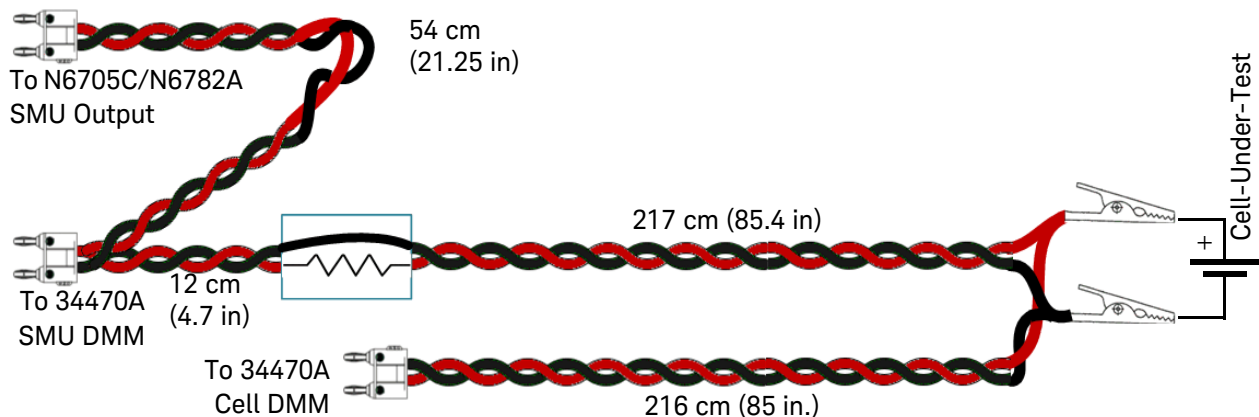

Figure 5 DUT Wiring Harness
- **Cell-Under-Test Wiring Harness:** The cable ends are labeled as depicted in Figure 5 for convenience and quick set up. Banana plugs are included on the cable ends for the Cell DMM, SMU DMM, and SMU connections. The wiring harness allows approximately 2-meter separation between cell and instruments.
The BT2192A software generates a positive or negative resistance that adds to or subtracts from the fixed 4.7 Ω physical resistor (internal to the test harness cable) to provide a net range of total series resistance from 0.1 Ω to 10 Ω . Figure 5 shows the internal 4.7 Ω resistor between the SMU output and the positive terminal of the cell-under-test.